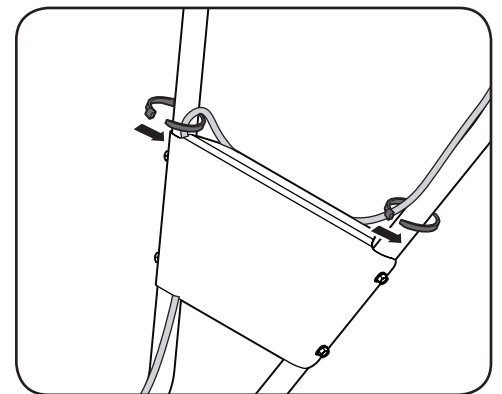

Figure 2-9
- Route the wire over the upper handle, then behind the handle panel, securing it to the right side of the handlebar with the clutch cables at the upper corner of the panel. See Figure 2-9.